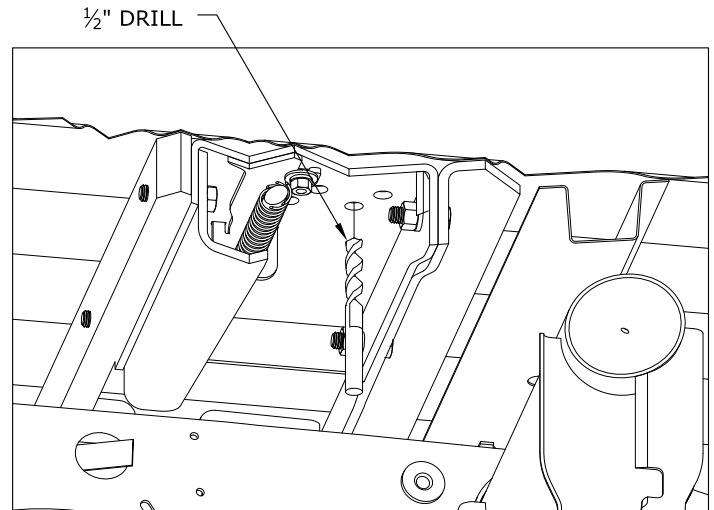

FIGURE G2: Cut away view of bed and center section
1. **Drill the holes.** From under the bed use a drill and a  $\frac{1}{2}$ " drill bit to drill through the bed using the four holes that match up with a low rib in the truck as a guide. Remove any burrs created during the drilling process, see figure G2.